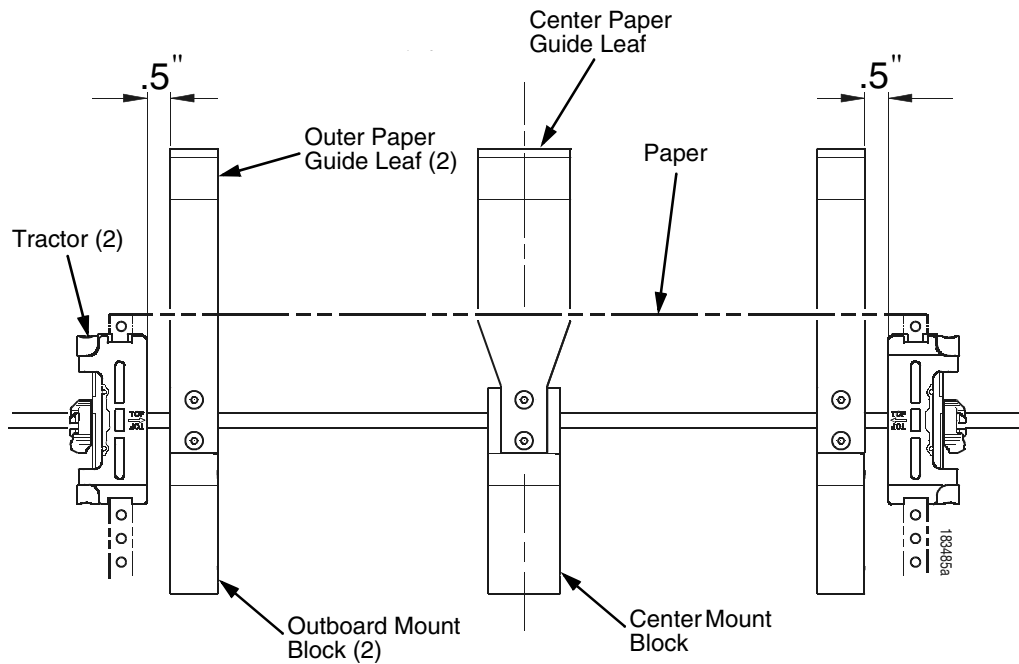

Figure 30. Adjusting Paper Guide Leaves
4. Slide the left outboard mount block so that the left outer paper guide leaf is .5 inches from the left tractor. (See Figure 30).